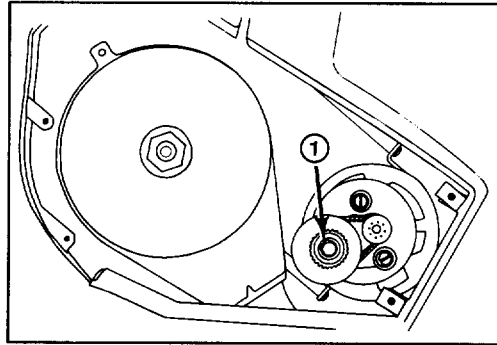

Figure 17
6. Remove the "E" Ring and (2) washers securing small pulley to mounting shaft (Fig. 17).